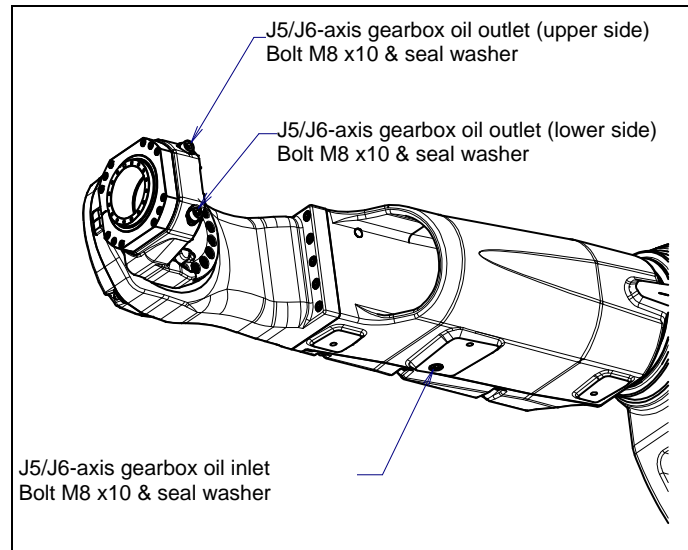

Fig. 7.3.2.4 (a) Oil inlet and outlet
- 4 Remove two bolts and seal washers of oil outlet. Then remove the bolt and the seal washer of the oil inlet See Fig.7.3.2.4 (a). In this time, if you remove bolt of oil inlet firstly, you can prevent spilling oil on surroundings.